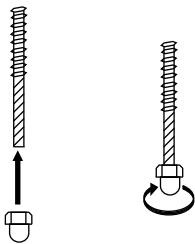

Fig 4
2. Screw the cap onto the bolt (Fig 4).